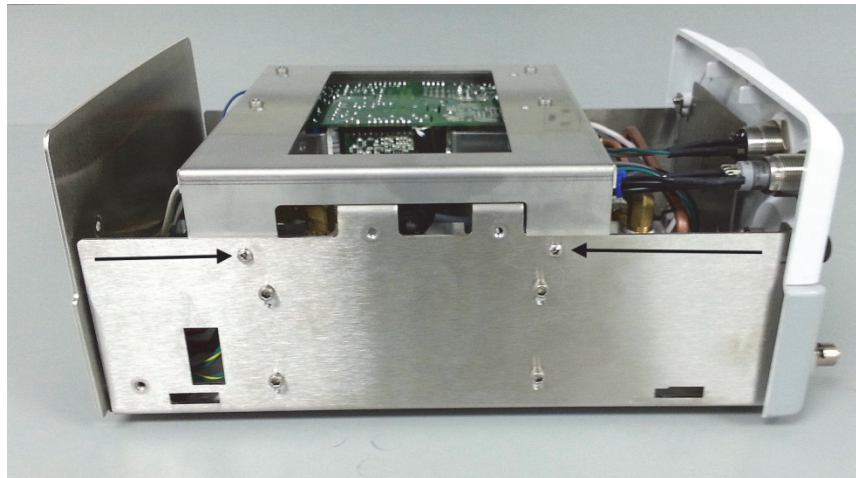

Figure 1
3. Remove the Power Supply Assembly screws (2 each side). See figure 1.